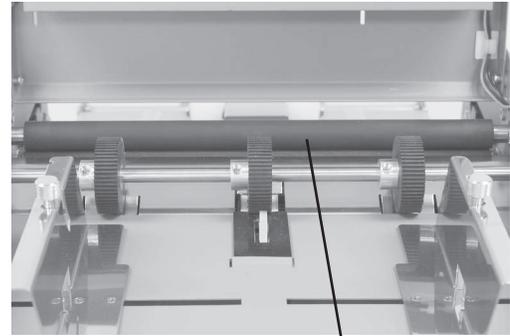

Fig. 52
1. Make sure machine is turned off and unplugged. All folders have four (4) rubber rollers (Fig. 52).